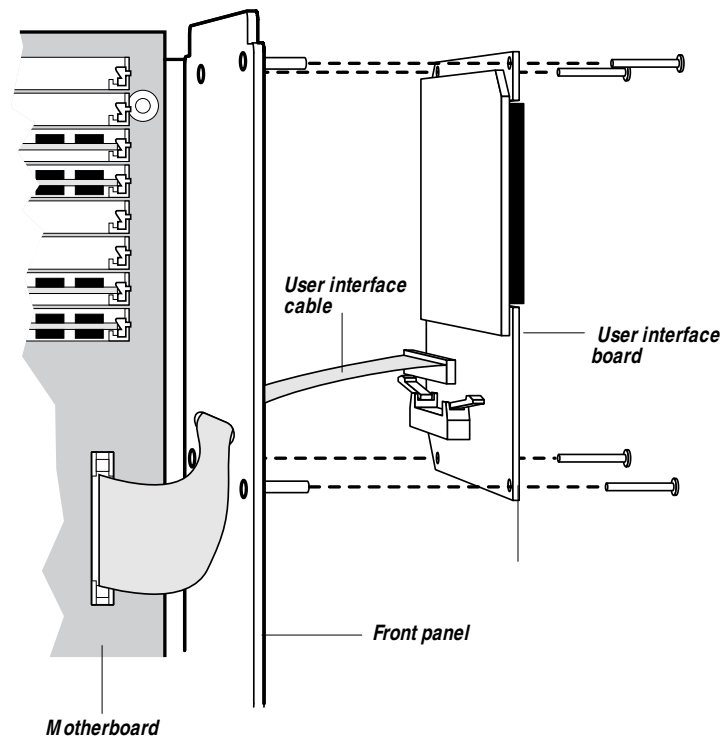

Figure 5-15 User interface board mounting hardware
2. ***Remove the four screws that secure the user interface board and the UIB shield to the Fiery XJ BP100 chassis (see Figure 5-15 on page 5-19).***